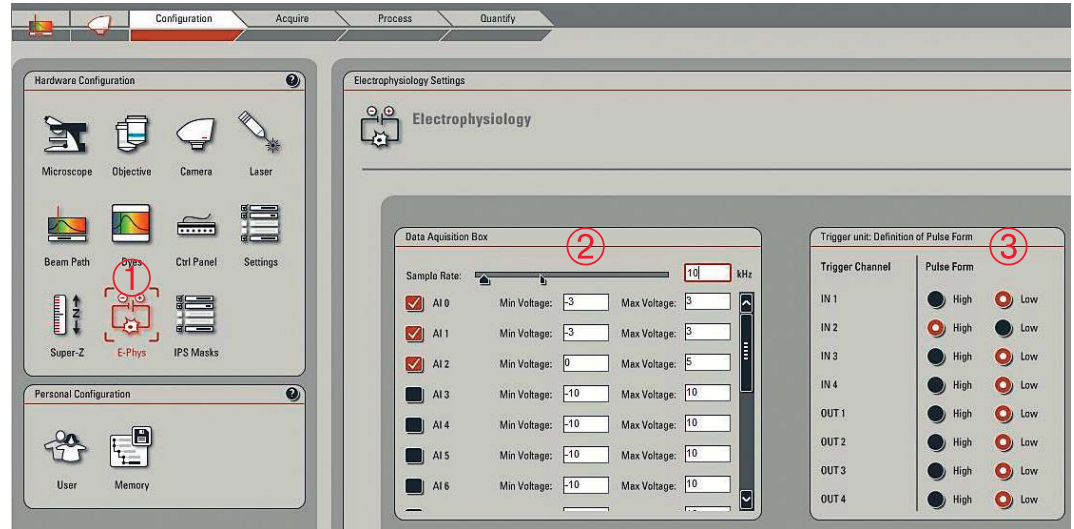

Fig. 8: Selection of analog channels for data acquisition box (2); Selection of Pulse Form for trigger unit (3)
Upon a click on the E-Phys-button in Configuration (Fig. 8,1) specific settings for Electrophysiology appear within the following window:
4.1 Data Acquisition Box – Selection of Analog Input Channels (Fig. 8,2)
4.2 Definition of Pulse Form for Trigger Unit (Fig. 8,3)